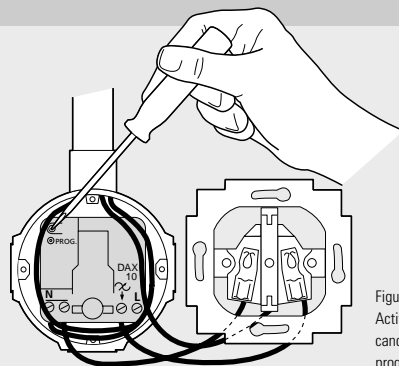

Figure 6.
- Press the program button for at least three seconds, see Figure 6; the red LED will light up permanently.